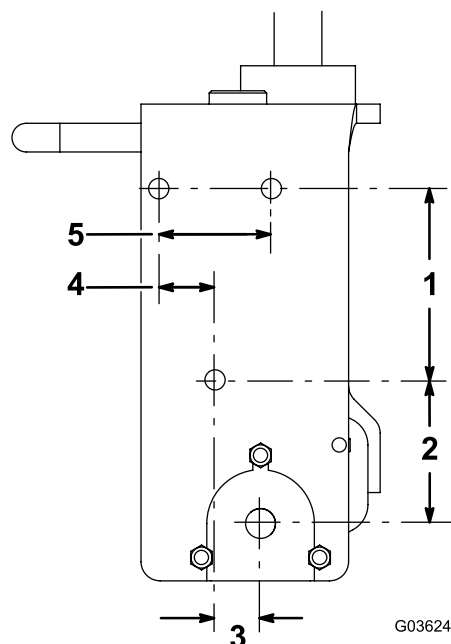

Figure 3
1. Locate, mark, and drill 3 holes (0.53 inch [17/32 in.] diameter) on each side of the rear castor fork as shown in Figure 3.